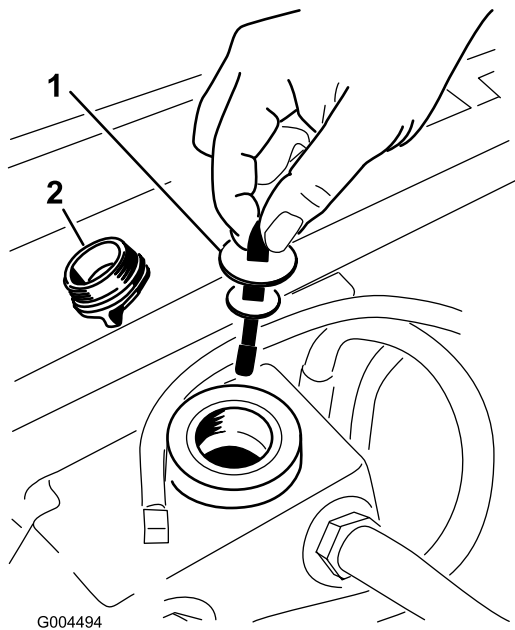

Figure 65
3. Remove the hydraulic fill cap (Figure 65) from filler neck.
4. Remove the dipstick and wipe it with a clean rag (Figure 65).
5. Place the dipstick into the filler neck; then remove it and check level of fluid (Figure 65).